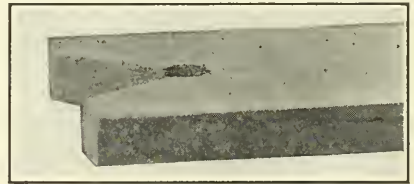

Fig. 83
24. **The Coping-saw** or **Bracket-saw** is useful for fine work. Cut the end of a board as in Fig. 83. Clamp this on